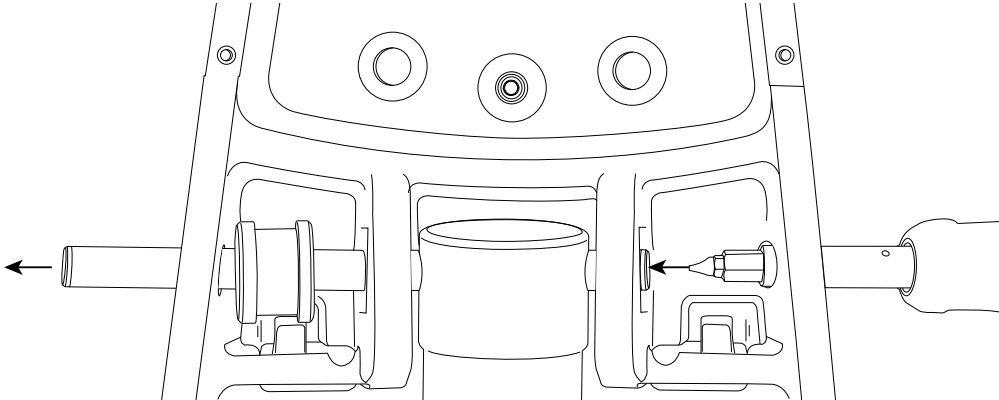

Figure 7. Driving out the rolling bar
**3** Use a screwdriver or similar tool to drive out the rolling bar (see Figure 7).